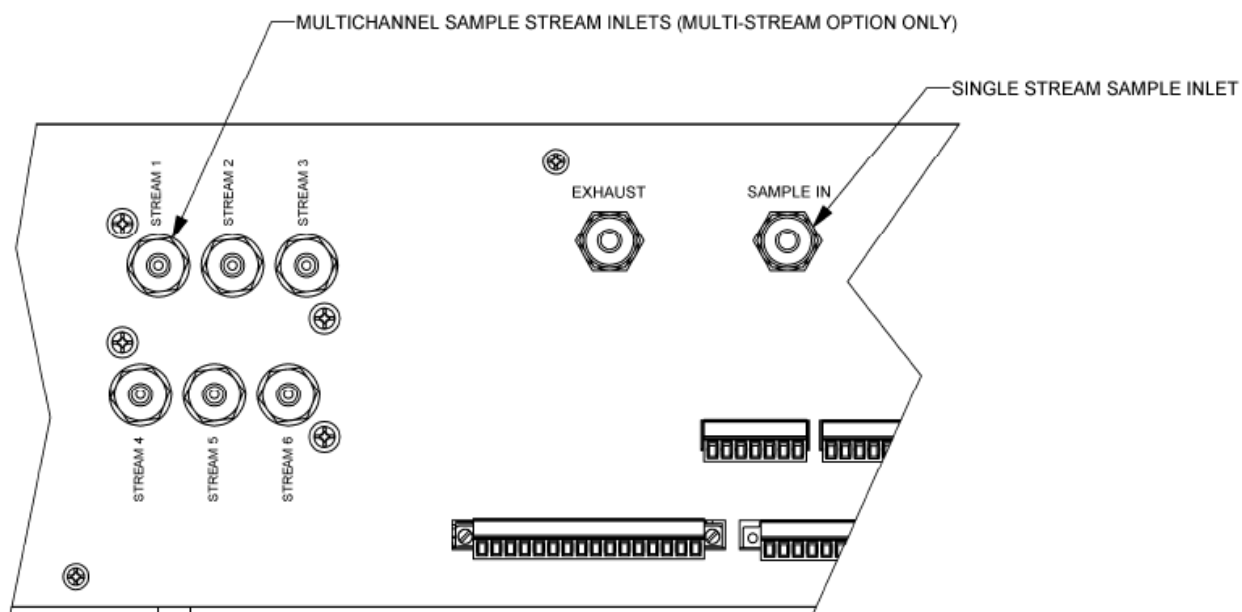
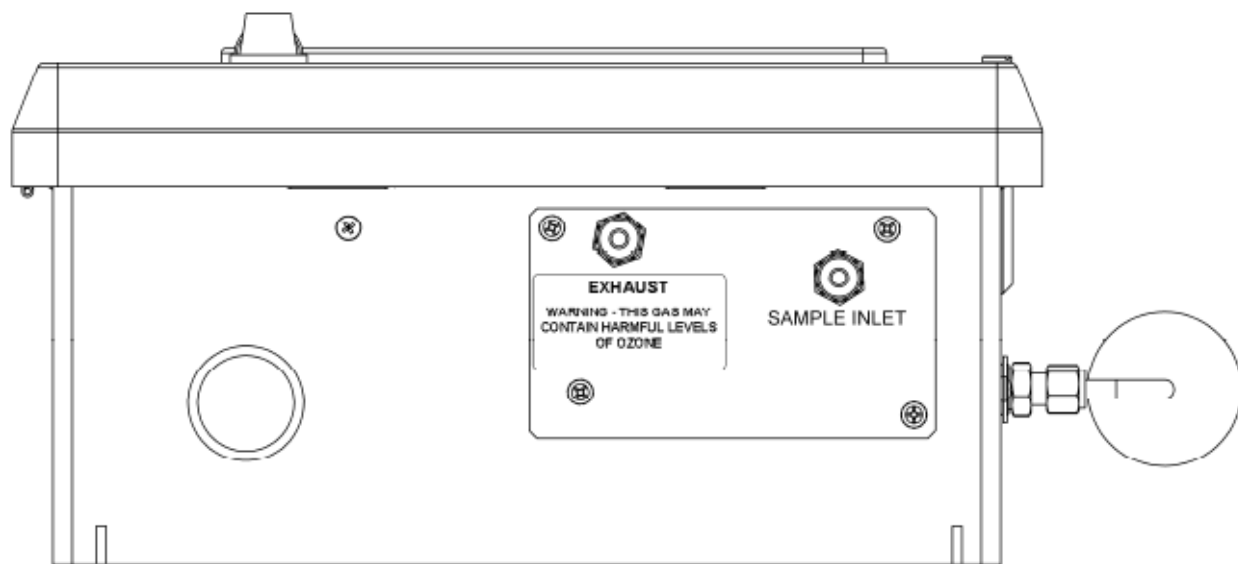
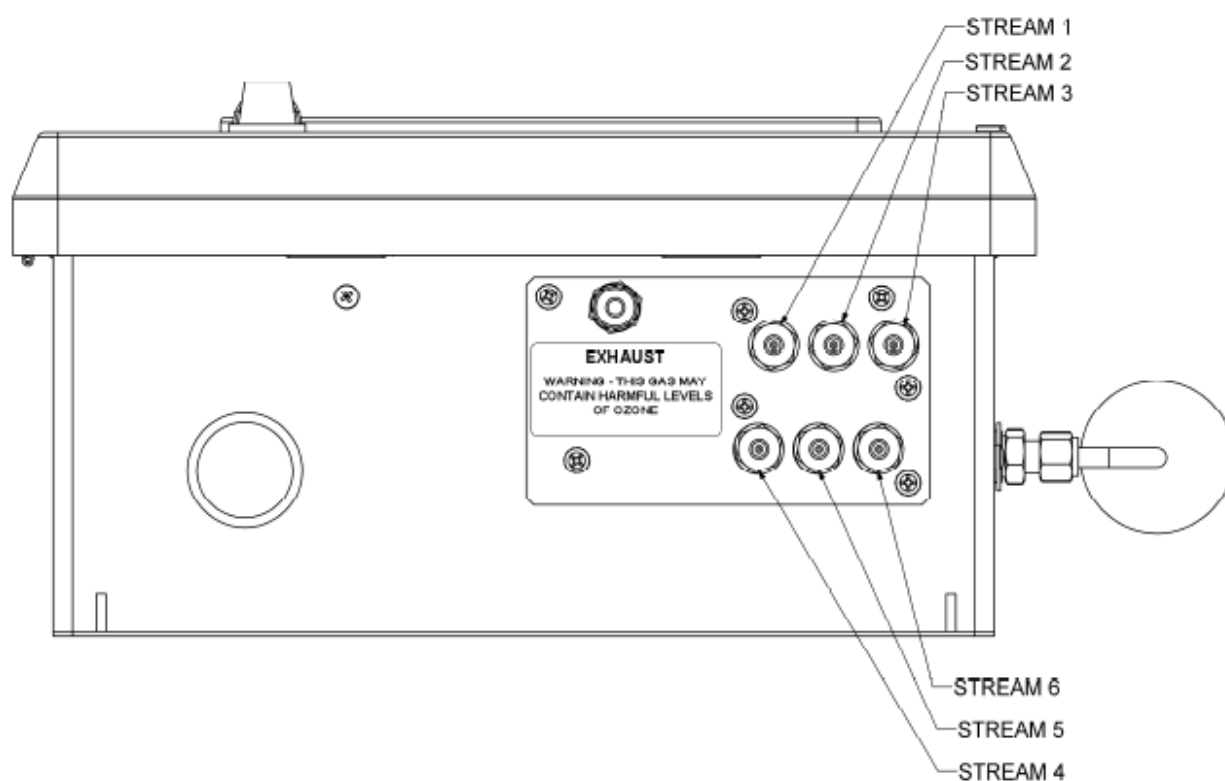

Figure 4-3: Pneumatic Connections, Rack Mount Configuration
Figure 4-4: Pneumatic Connections, NEMA Configuration, Single Stream
Figure 4-5: Pneumatic Connections, NEMA Configuration, Multi-Stream
3. Connect sample inlet line(s) to the sample port on rear panel or bottom panel of instrument. See Figure 4-3 or Figure 4-4 for rear panel pneumatic connections.
Connect the exhaust fitting on the rear panel (see Figure 4-3) to a suitable vent outside the monitor area.
Sample gas connections are made to the 1/4" tube fittings on the rear panel. For single stream monitors, use the fitting labeled "Sample Inlet." For multi-stream monitors, the sample tubing is connected to the fittings labeled Stream 1, Stream 2, etc (See Figure 4-3, Figure 4-4, Figure 4-5)